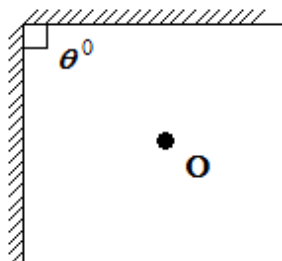

Figure 2
- (b) Place the two plane mirrors along the top two lines using the mirror holders or office pins as shown in Figure 2.